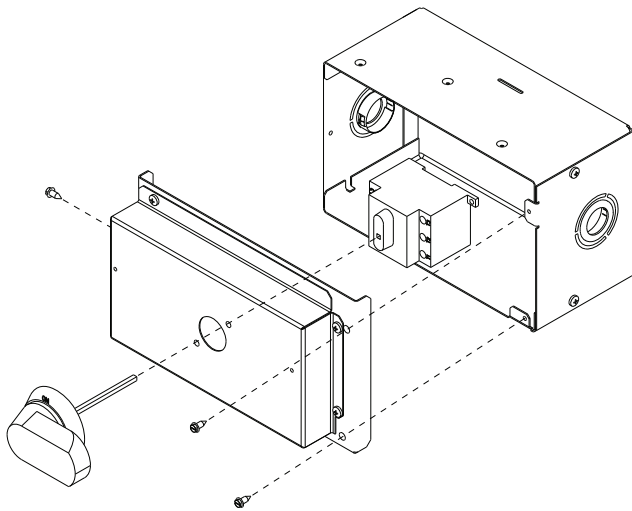

Fig. 29 — Handle and Shaft Assembly for NFD
2. Remove (3) cap head screws that secure the NFD enclosure front cover – (2) on the face of the cover and (1) on the left side cover. See Fig 29.
10. Secure the handle to the painted cover with (2) screws and lock washers supplied.
11. Engaging the shaft into the handle socket, re-install (3) cap head screws on the front cover.